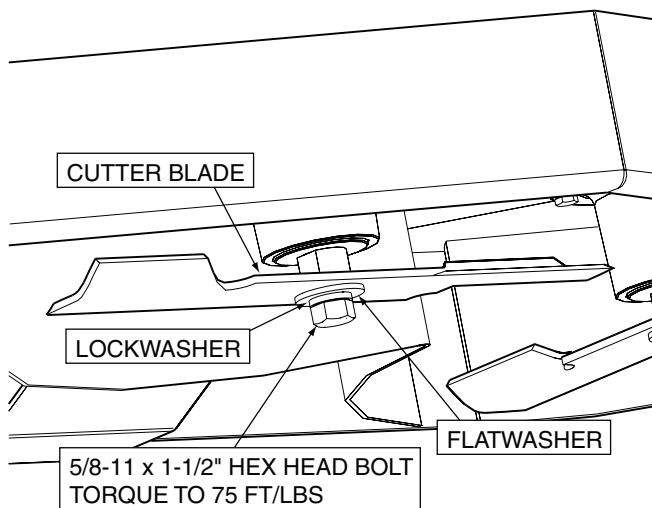

Figure 7-9. Blade Replacement
3. Secure the cutter blades to prevent them from rotating, (use the optional Blade Buddy tool P/N 9212, to assist in securing the cutter blades), remove the blade attaching bolt. Remove the cutter blade, bolt, lockwasher and flatwasher from the spindle shaft. See Figure 7-9.
5. Install the cutter blade onto the cutter spindle shaft. Secure the blades from rotating and torque to 75 ft/lbs. See Figure 7-9.